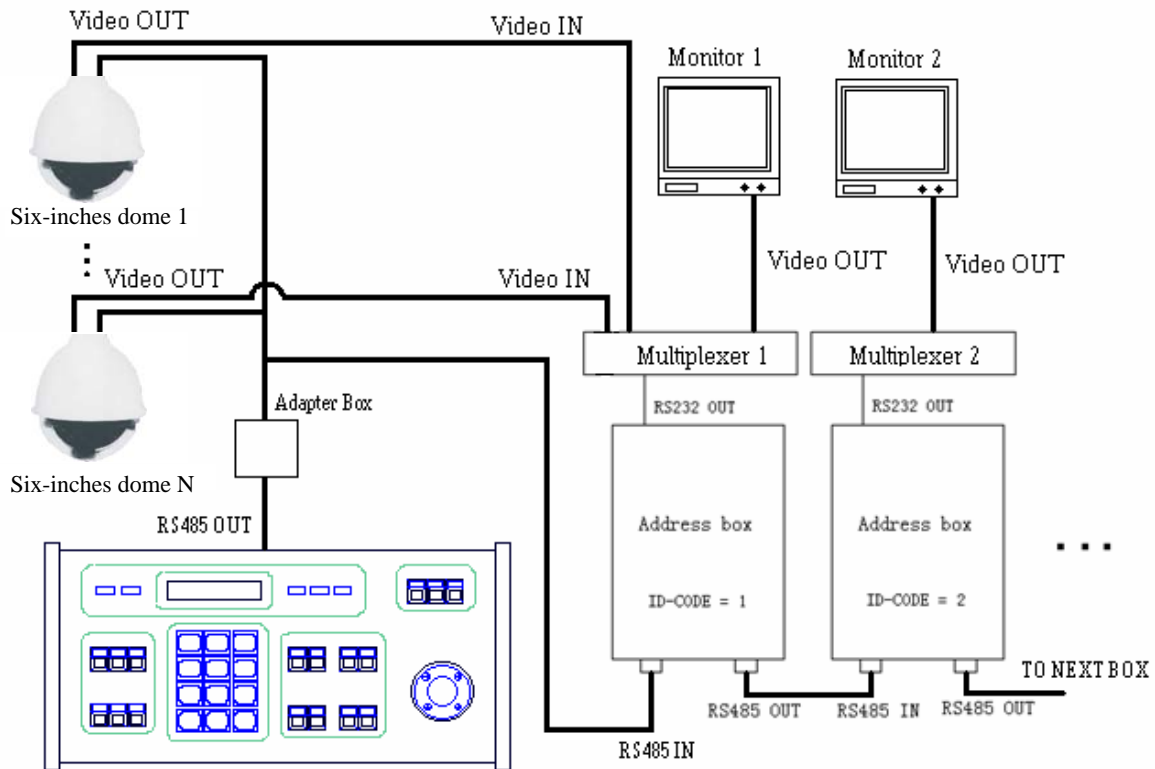

Figure 7
4. Connection Drawing between the keyboard and the multiplexer via the address box (Figure 7)